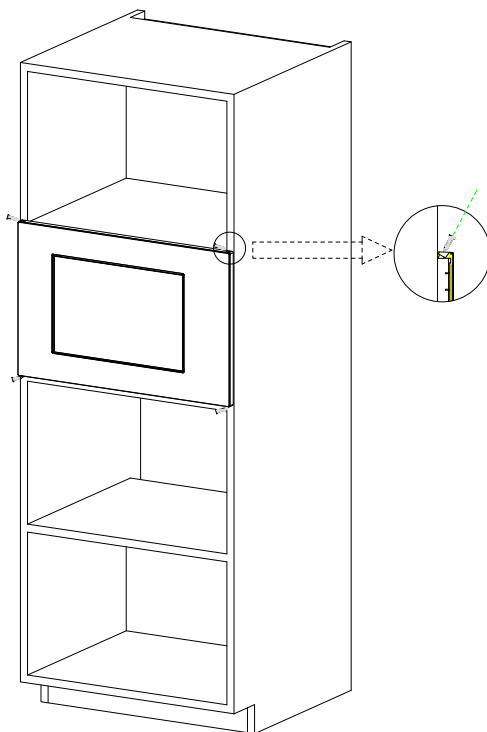

Fig.2
b) Push the microwave oven till to the end. (Fig. 2)